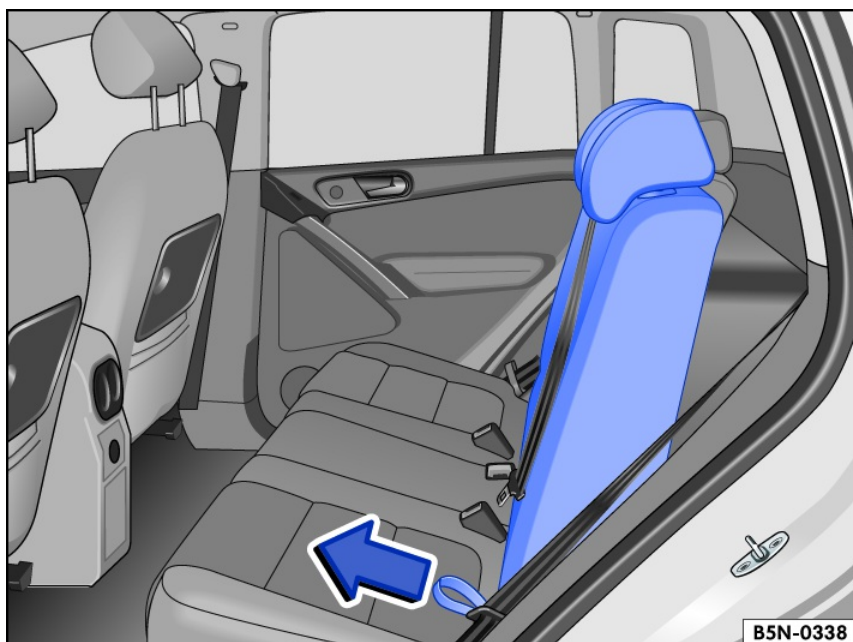

Fig. 79 Rear bench seat: Folding the rear seat backrest up and down.
- Pull the loop fig. 79 forward in the direction of the arrow while supporting the backrest, and slowly fold the rear seat backrest forward ⇒ ⚠.